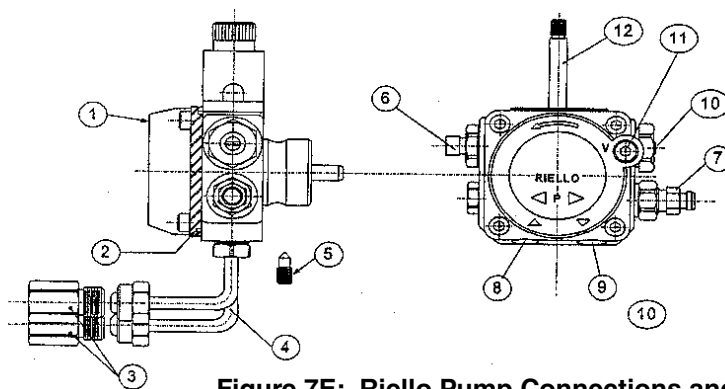

Figure 7E: Riello Pump Connections and Port Identification
- g. Pump Connections and Port Identification, refer to Figure 7E.